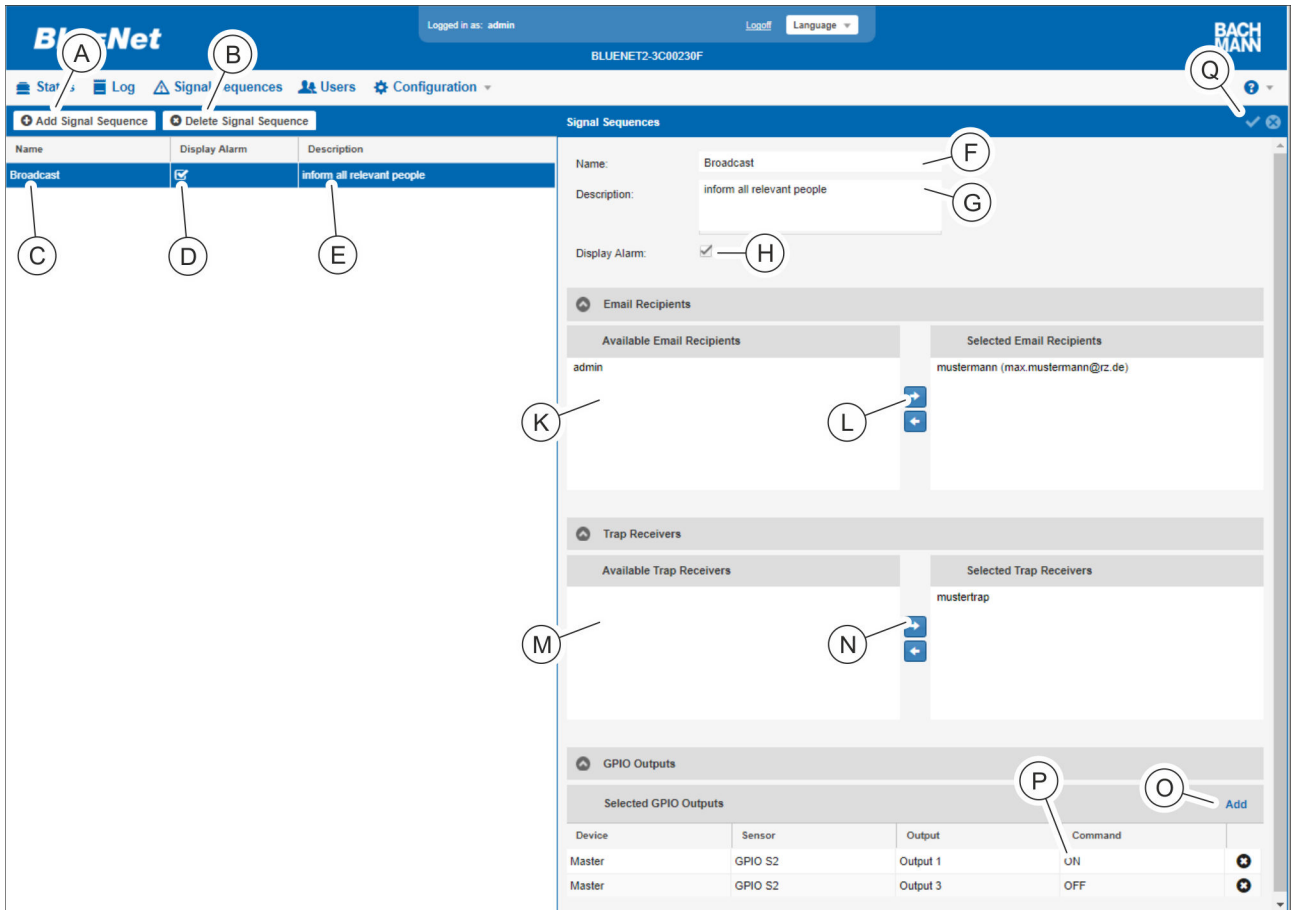

Fig. 123: “Signal Sequences” menu
2. ➤ Create a new signal sequence by clicking the "Add Signal Sequence" button (Fig. 123/Ⓐ).
To modify an existing signal sequence, select the relevant signal sequence in the list (Fig. 123/Ⓒ).
3. ➤ In the "Signal Sequence" area, enter a name for the signal sequence (Fig. 123/Ⓒ).
4. ➔ If necessary, enter a description for the signal sequence (Fig. 123/Ⓒ).
5. ➔ If necessary, activate the "Display Alarm" checkbox to have an alarm message displayed on the PDU display (Fig. 123/Ⓓ).
6. ➔ If necessary, select a recipient for email notification in the "Available Email Recipients" (Fig. 123/Ⓔ) field and use the  button to move it into the "Selected Email Recipients" field (Fig. 123/Ⓕ).
7. ➔ If necessary, select a trap receiver in the "Available Trap Receivers" (Fig. 123/Ⓜ) field and use the  button to move it into the "Selected Trap Receivers" field (Fig. 123/Ⓨ).
8. ➔ If you want to link the signal sequence to an output on a GPIO module, press the "Add" button (Fig. 123/Ⓒ).
10. ➔ If necessary, select the corresponding output in the list and, in the "ON"/"OFF" option menu (Fig. 123/Ⓓ), define whether the relay is switched on or off when the signal sequence is triggered.
11. ➔ Confirm the selection by clicking the "Save" button (Fig. 123/Ⓓ).
- ⇒ The signal sequence has been created (Fig. 123/Ⓒ).
To delete a signal sequence, select the desired signal sequence (Fig. 123/Ⓒ) and click the "Delete Signal Sequence" button (Fig. 123/Ⓒ). A security prompt appears and has to be confirmed.